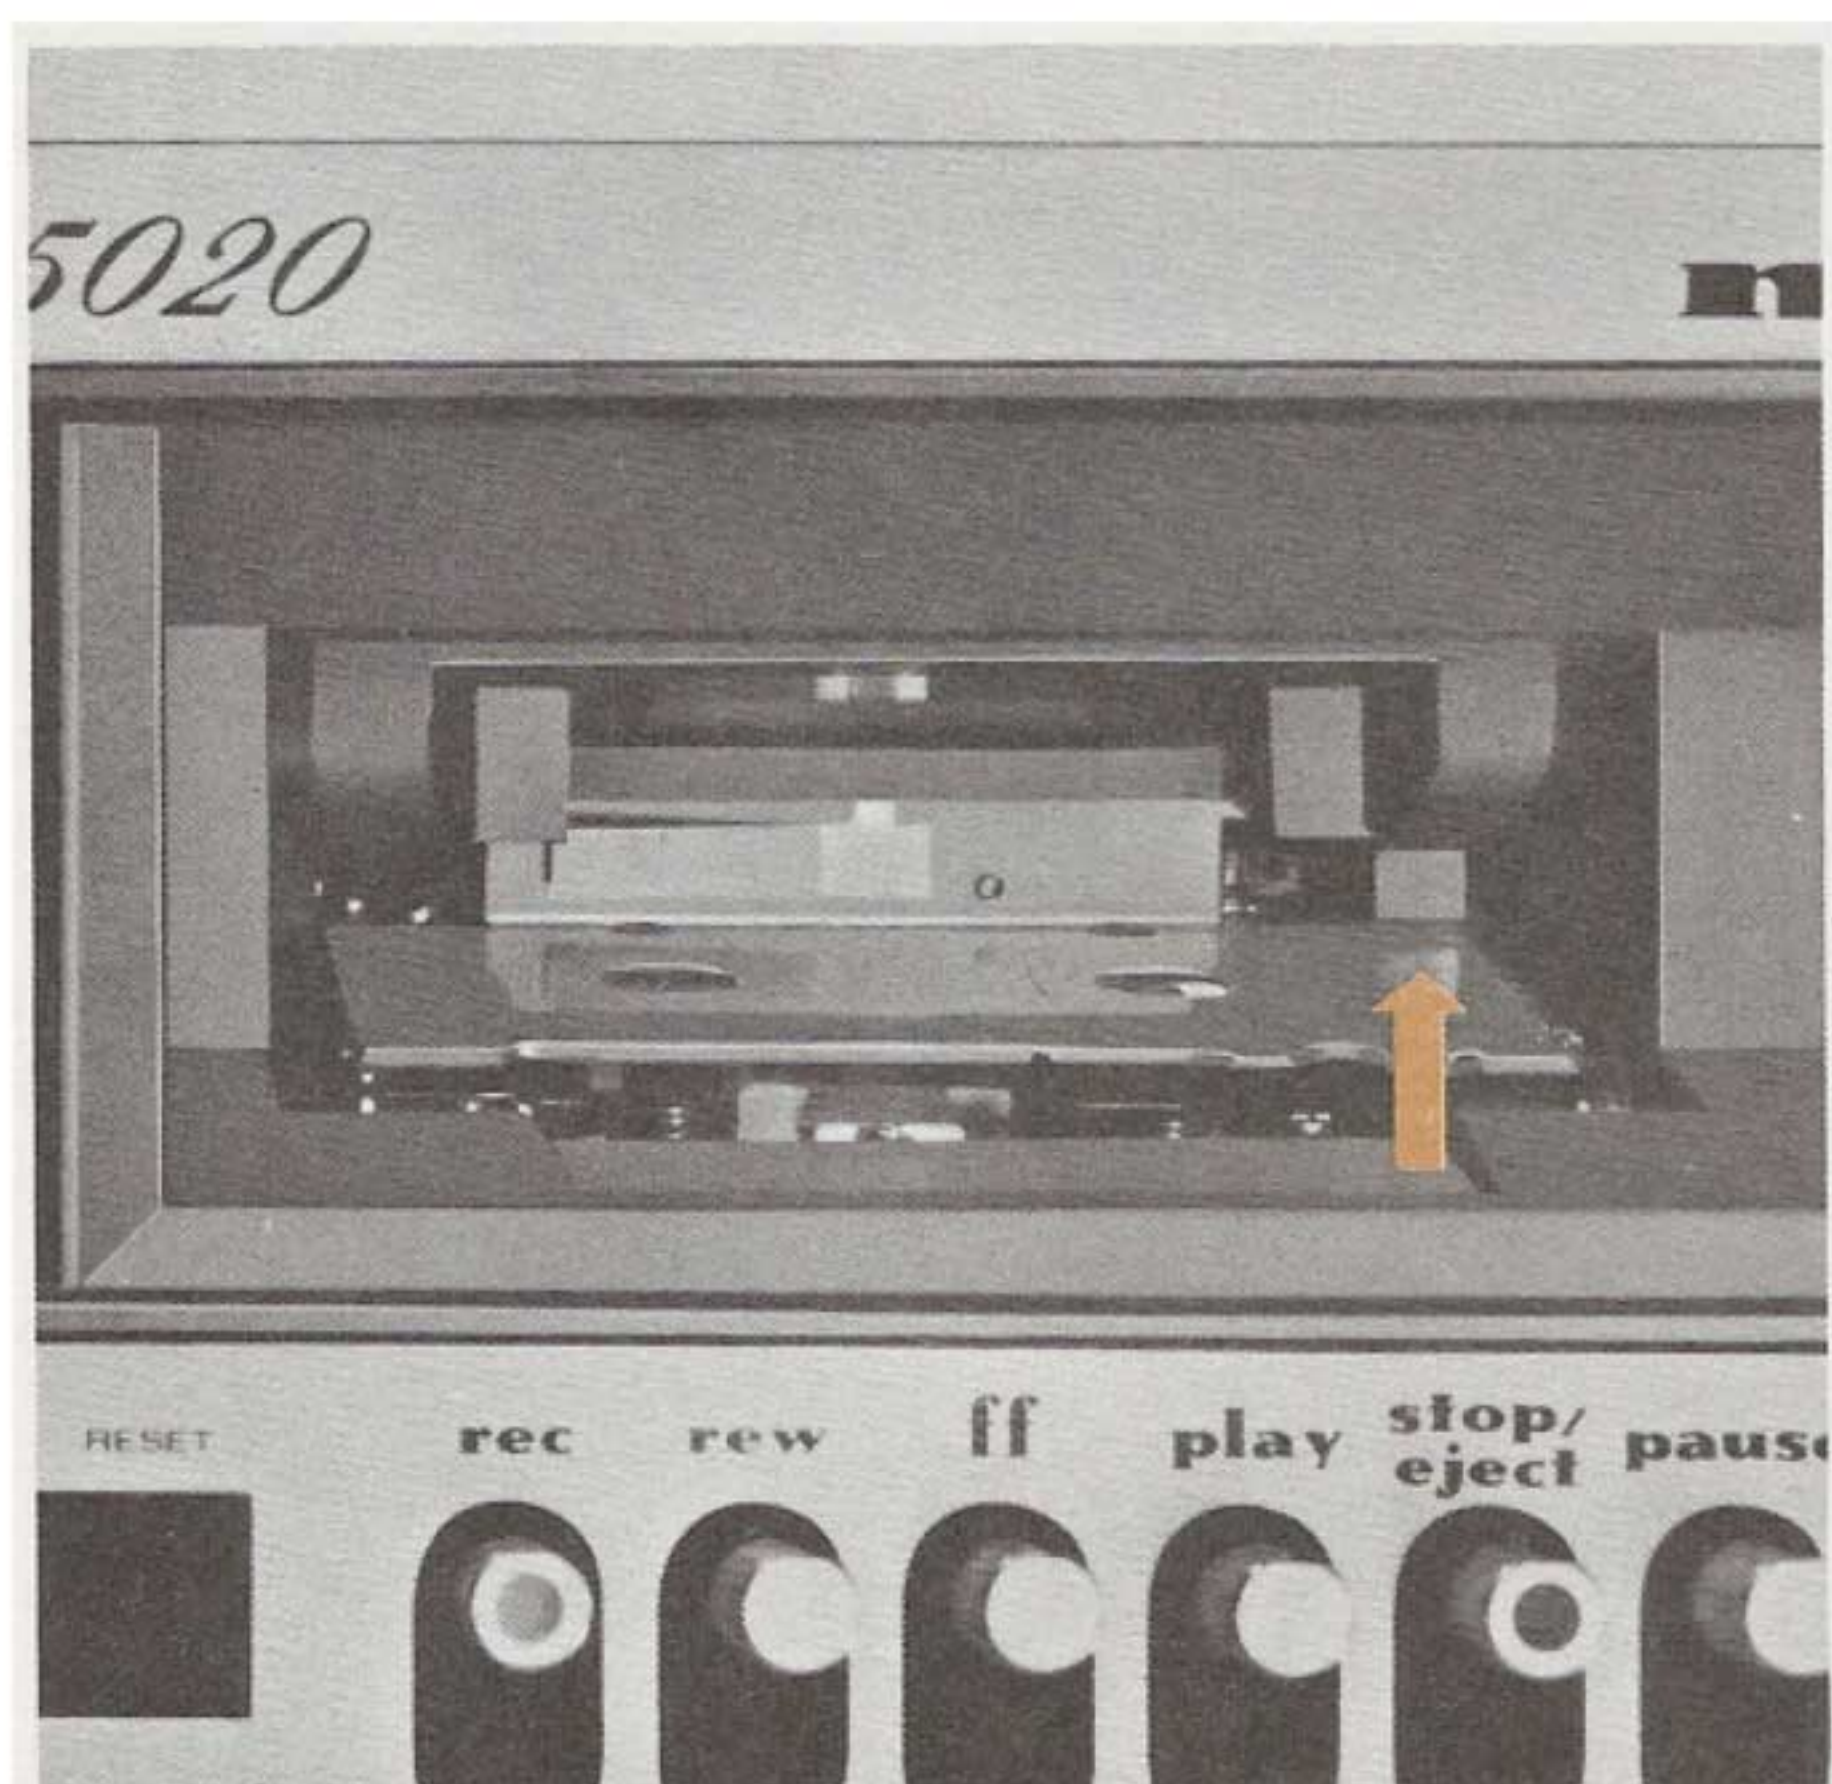

Figure 5. Release Lever
3. Inside the cassette compartment, push back the black release lever in the right rear corner, using a cotton swab, pencil, or a screwdriver (See figure 5). Then, depress the cassette holder by hand.